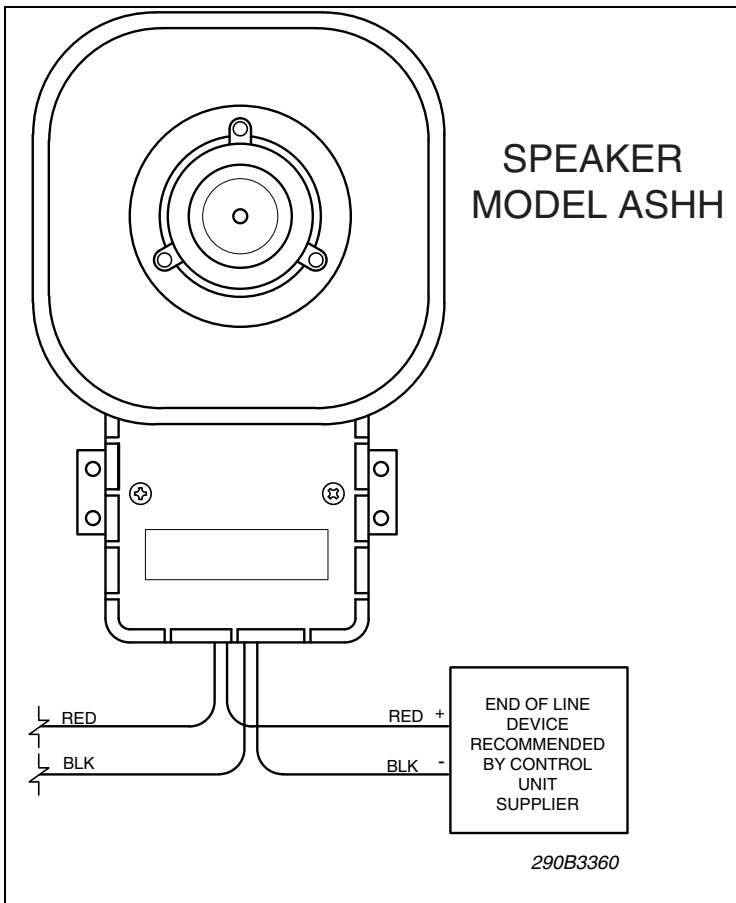

Figure 2. Typical Tone Card Installation Wiring
- a. See figure 2. Connect the device's red (+) leads to the power source positive (+) lead. Connect the device's black (-) leads to the power source negative (-) lead.